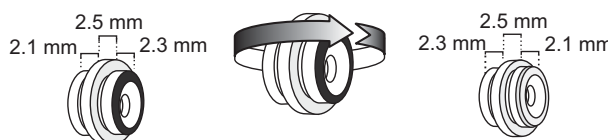

Figure 15. Reversing the Mounting Button
4. Unscrew and remove the mounting button. Turn it around 180°. Secure the mounting button to the ePDU (see Figure 15).